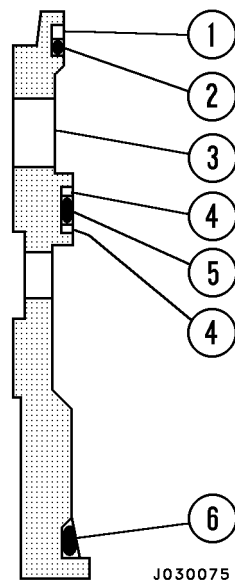

FIGURE 3-7. SLEEVE SEAL PLACEMENT
1. Install O-ring (2, Figure 3-7) onto the smallest groove (on the top) of regulator sleeve (3). Install O-ring (5) onto the middle groove on the regulator sleeve. Install O-ring (6) onto the largest groove (on the bottom) on the regulator sleeve.
2. Install split nylon backup ring (4) onto each side of O-ring (5) located in the middle of the regulator sleeve.
3. Install one split nylon backup ring behind O-ring (2) located at the top end of the sleeve. (This O-ring is the smallest of the three O-rings.) Position the backup ring so that it is next to the top of the regulator sleeve. The top of the sleeve is the end with the smallest outside diameter.